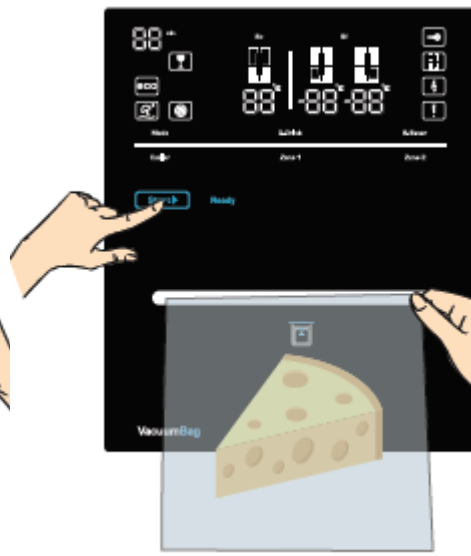

Figure-2
2. The mouth of the vacuum bag is held tight from two edges as shown in the figure 1 and inserted into the compartment in the indicator panel by inserting (5 cm) up to the red strip on the bag. (Figure-2)
3. Press start button on the display. (Figure-2)